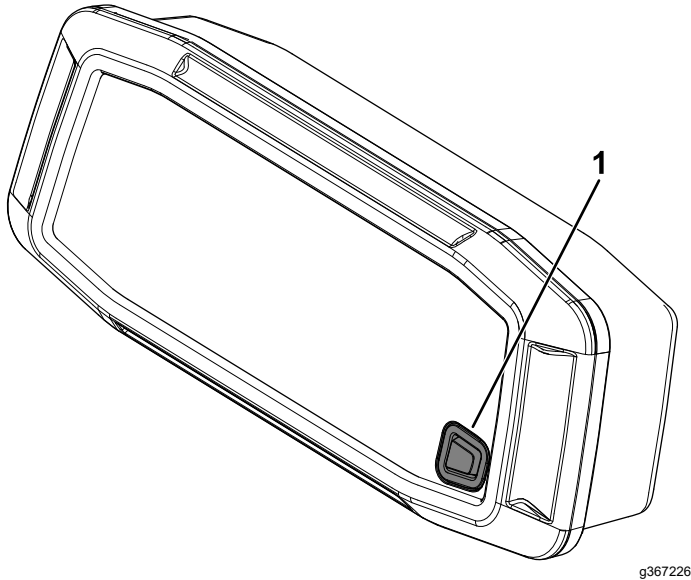

Figure 54
1. Press and hold the button (Figure 54) for at least 10 seconds.